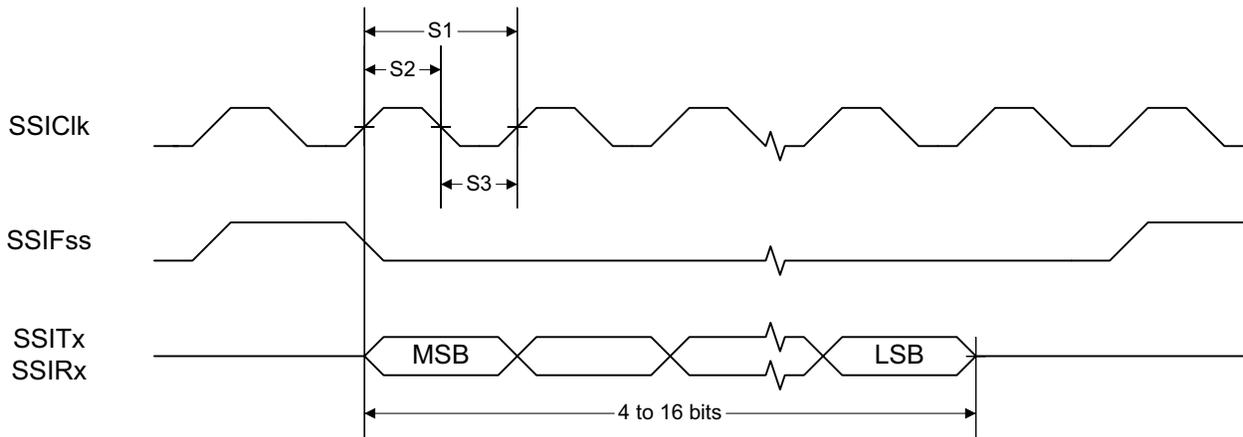
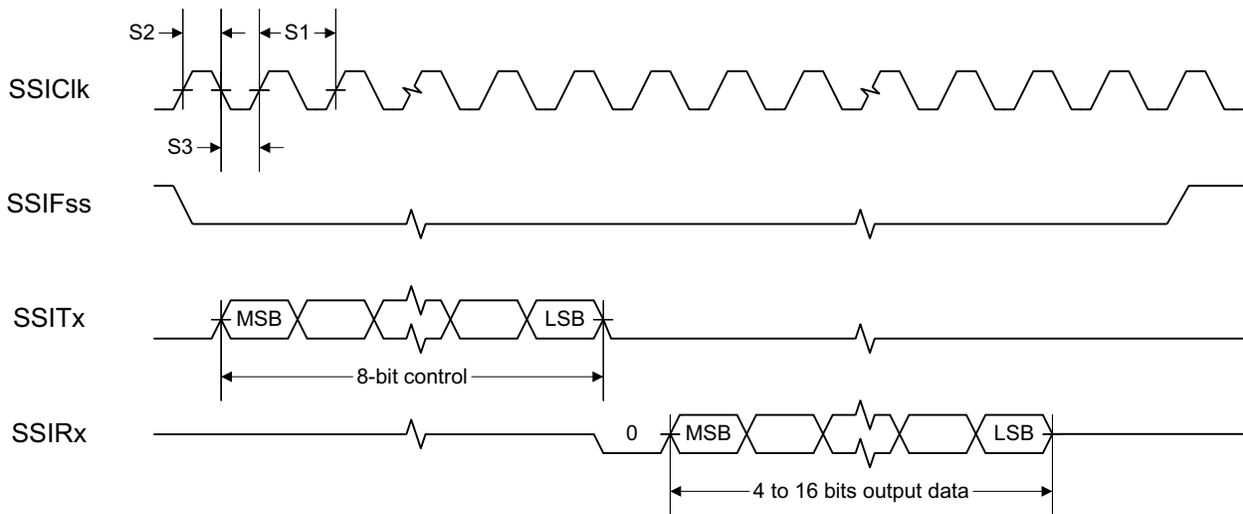
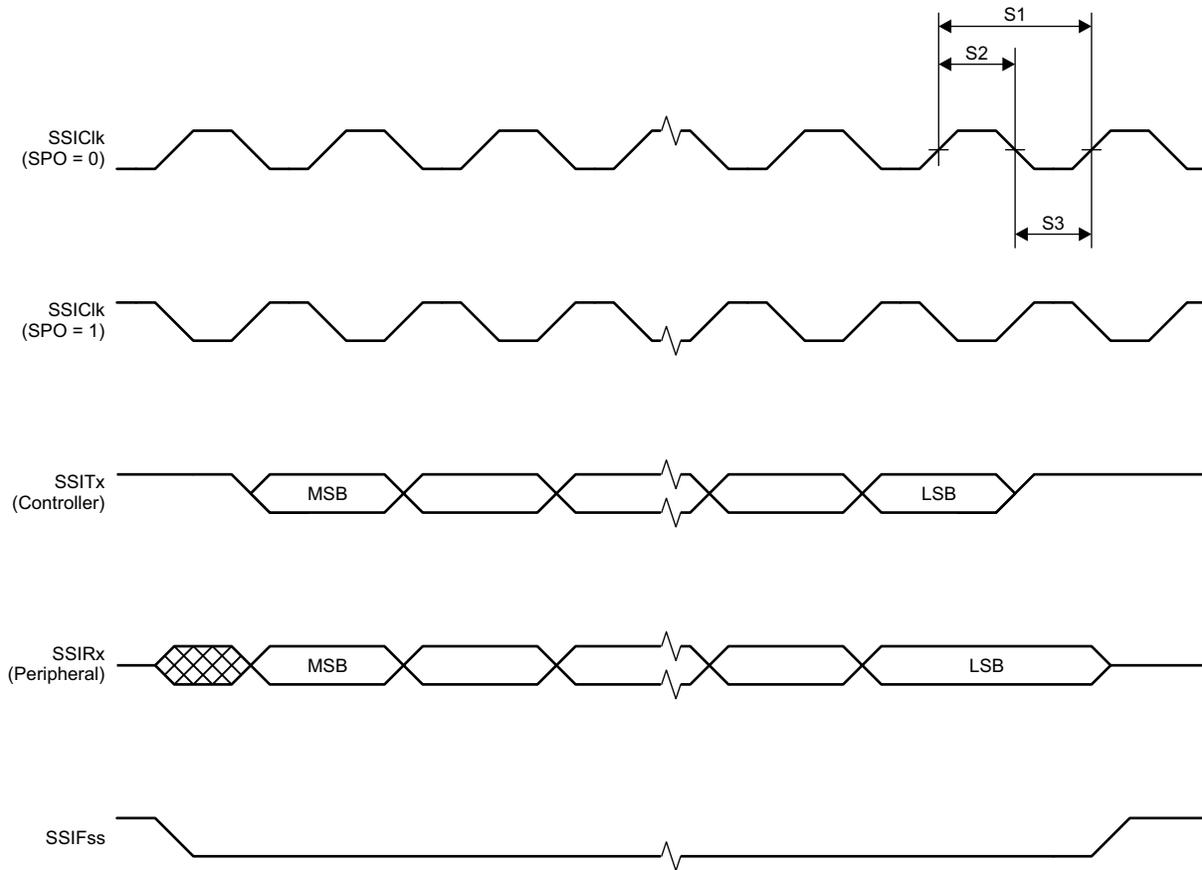

图 8-1. SSI Timing for TI Frame Format (FRF = 01), Single Transfer Timing Measurement
图 8-2. SSI Timing for MICROWIRE Frame Format (FRF = 10), Single Transfer
图 8-3. SSI Timing for SPI Frame Format (FRF = 00), With SPH = 1
- (1) Refer to SSI timing diagrams Figure 8-1, Figure 8-2, and Figure 8-3.
- (2) When using the TI-provided Power driver, the SSI system clock is always 48 MHz.